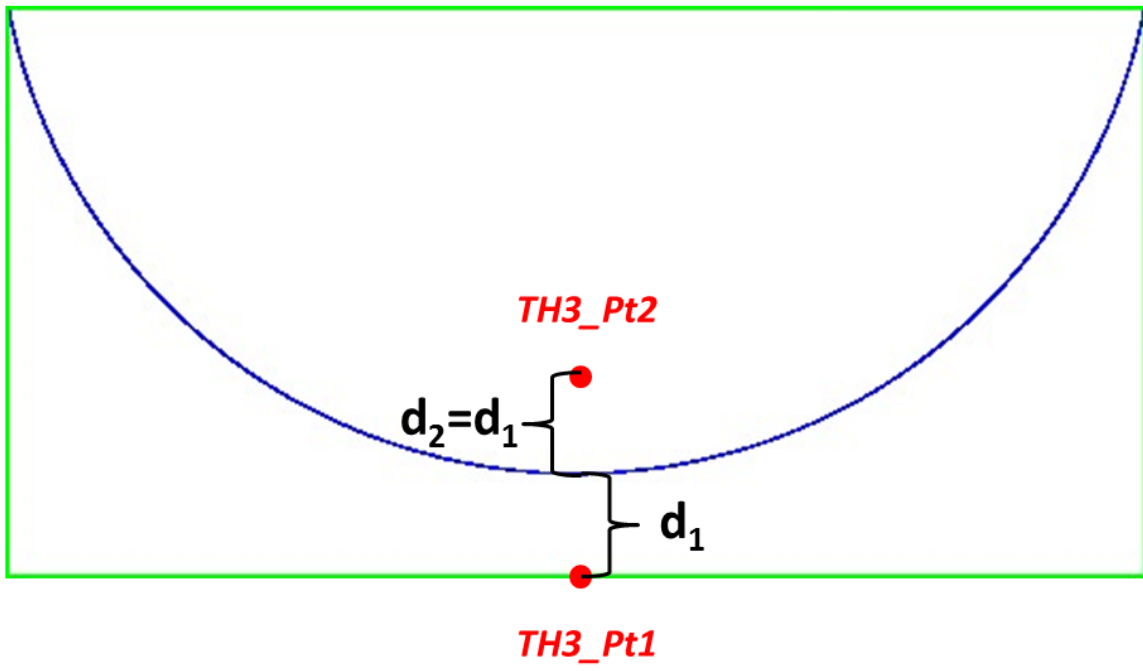

Fig. 1: TH3 case upper half geometry providing point locations of the new performance measures
- a. Spatial positioning: TH3\_Pt1 and TH3\_Pt2 are placed on Fig. 1 below representing the upper half of the modelled domain (frame in green) with the boundary limit (in blue) between the 5°C and the -5°C initial conditions. TH3\_Pt1 is in consequence in the middle of the total studied domain. TH3\_Pt2 is symmetrical to TH3\_Pt1 with respect to this former boundary ( $d_1 = d_2 = 0.0901$  m).
- g. **TH3\_PM4\_Pt1 and TH2\_PM4\_Pt2**: evolution of temperature in °C at point locations TH3\_Pt1 and TH3\_Pt2 (refer to Fig. 1).